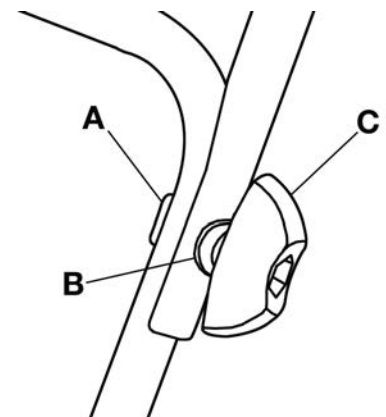

FIGURE 7
5. Insert the joint fixing bolt (A) Fig.7 into the aligned holes on each side. Place washers (B) on the joint fixing bolts outside of the frame as shown.
6. Use the quick release lock knobs (C) Fig.7 to secure the connection.